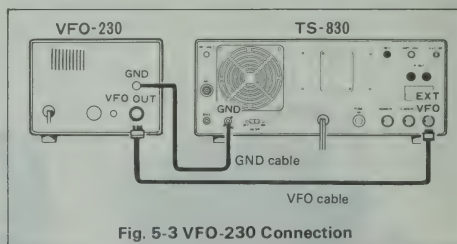

Fig. 5-3 VFO-230 Connection
■ VFO-230 CONNECTION (Fig. 5-3)
Connect the VFO-230 as shown in Fig. 5-3.